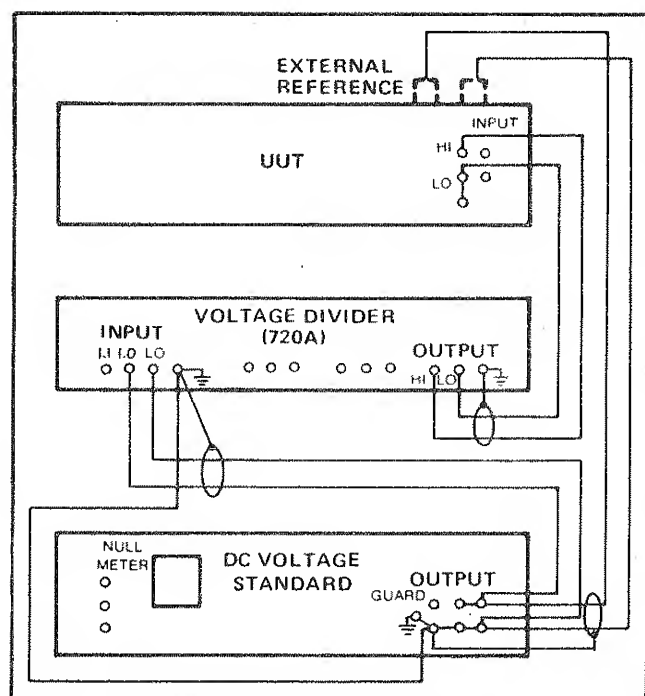

Figure 4-4. DC External Reference Test
1. Connect test equipment and the UUT as illustrated in Figure 4-4.